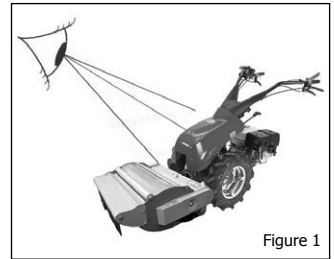

Figure 1
**READ** and observe all warning labels on the machine and implements (figure 1).